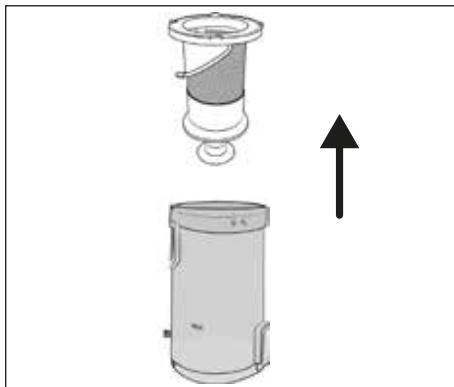

Fig. 19
- 4) Remove the stainless steel filter **6** from the dust container **7** by reaching into the opening of the stainless steel filter **6** and pulling it out of the dust container **7** (see Fig. 19).